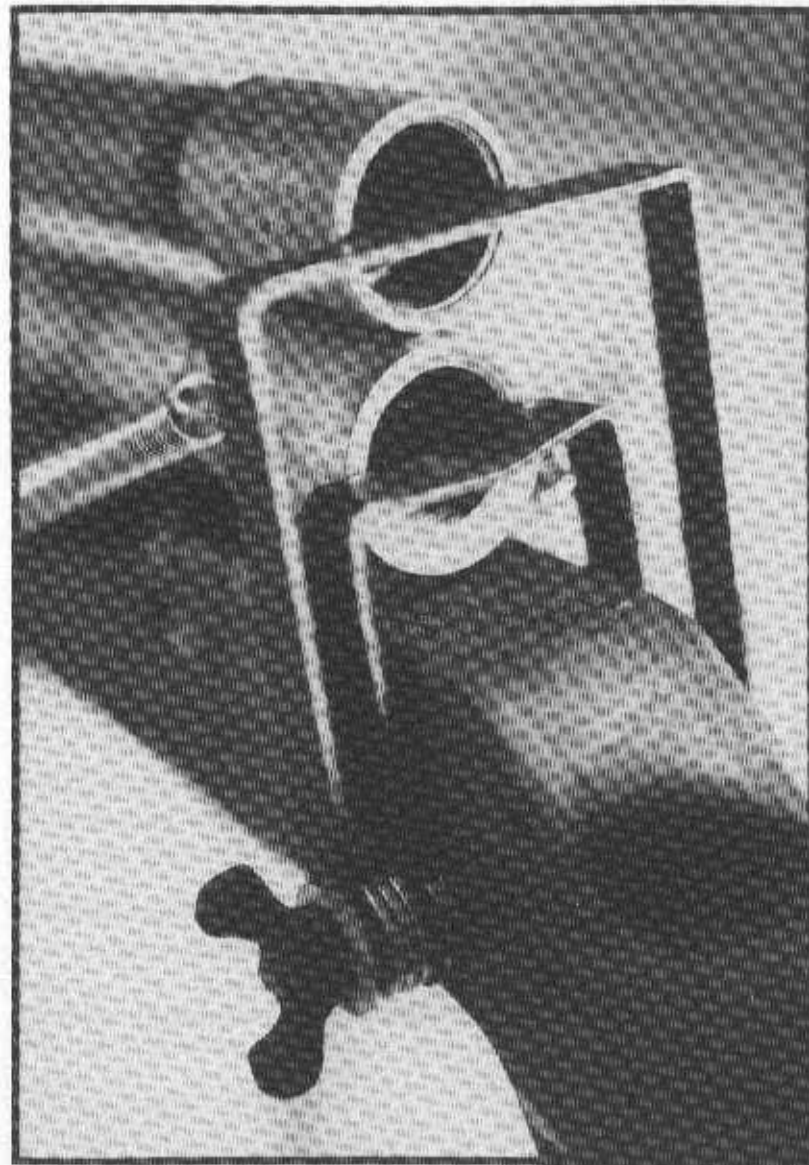

Figure 4-10
14. The next step is to make a hammer for the second barrel. Install a longer pivot pin, install both hammers on the same pin, and space them with washers as needed. Attach a spring to drive the second hammer on the opposite side of the gun from the spring which drives the first hammer. See Figure 4-10.